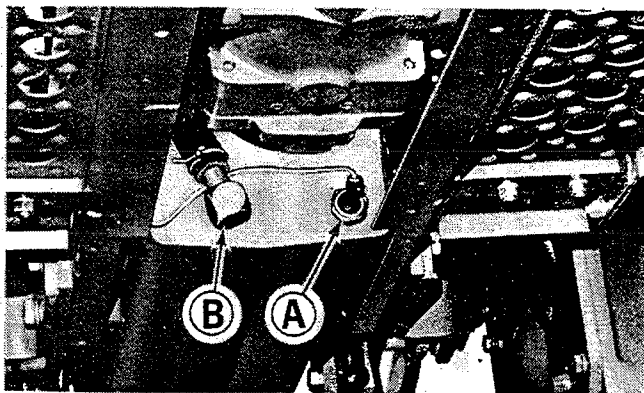

Figure 33. Front of transmission from beneath tractor.
**CHANGE THE TRANSMISSION OIL (FLUID):** See figure 33. **DO NOT RUN THE ENGINE WITHOUT OIL IN THE TRANSMISSION.** The transmission case is divided into two compartments. Both the oil temperature sending unit (A) and the pipe fitting (B) on the front of the transmission must be removed to drain the transmission completely. Warm oil will drain best. The tractor should be operated at least 1/2 hour to warm the oil before draining the transmission. Proceed as follows:
2. Remove the wire from the oil temperature sending unit (A).
4. Remove the spring clamp and hose from the pipe fitting (B).